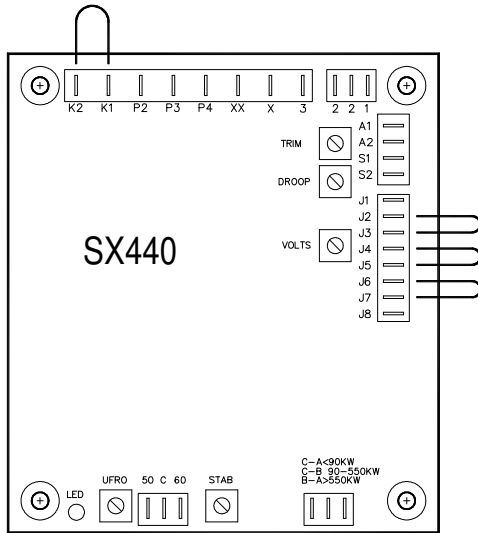
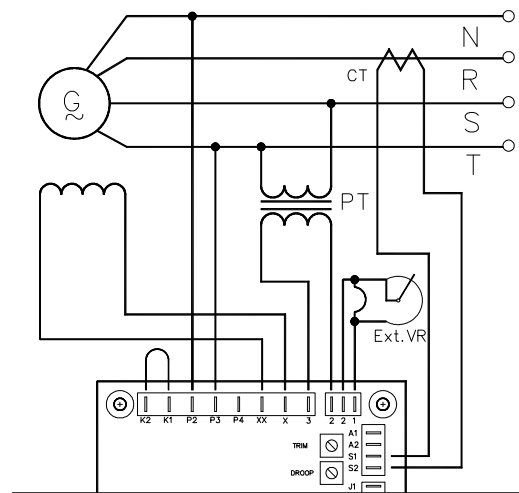

Figure 2 Bypass Drawing
Figure 3 Wiring Drawing
9. J1~J8 : Jump select terminals, 2-3,4-5,6-7. please refer to Figure 2 and Figure 3.
1. When it is required to operate the regulator in parallel with an isolated or utility bus, in addition to the regulator provisions, a 10VA current transformer (CT) is required (See Figure 3). The CT is connected in a generator line and should deliver from 1 amperes secondary current at rated load.
1. For reactive droop compensation, connect the CT to it's respective regulator as shown on Figures 3.
wires are not connected well	Please refer to Figure 2
Terminal 3&2 no sensing input	Please refer to Figure 2